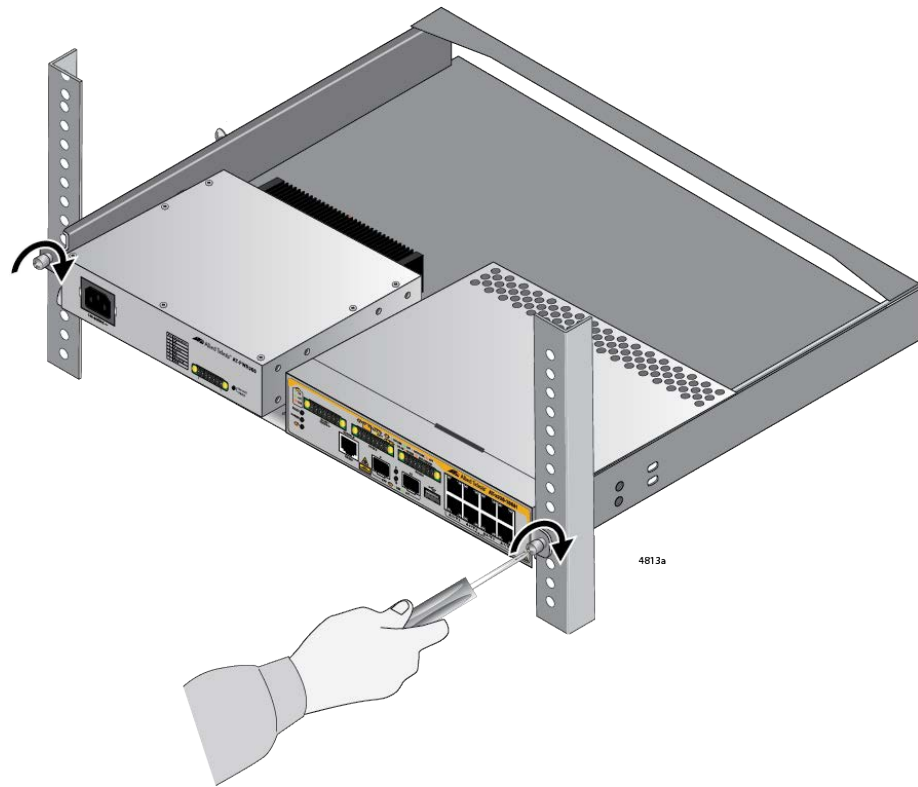

Figure 40. Tightening the Two Thumbscrews on the RKMT-J15 Bracket
8. Tighten the two thumbscrews to secure the tray to the bracket. Refer to Figure 40.